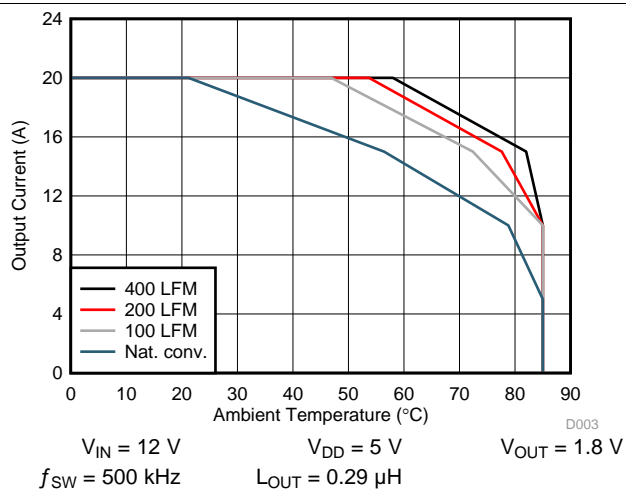

Figure 3. Safe Operating Area – PCB Horizontal Mount (1)
The SOA curves in the CSD97376Q4M data sheet give engineers guidance on the temperature boundaries within an operating system by incorporating the thermal resistance and system power loss. Figure 3 and Figure 5 outline the temperature and airflow conditions required for a given load current. The area under the curve dictates the safe operating area. All the curves are based on measurements made on a PCB design with dimensions of 4 in (W)  $\times$  3.5 in (L)  $\times$  0.062 in (T) and 6 copper layers of 1-oz copper thickness.